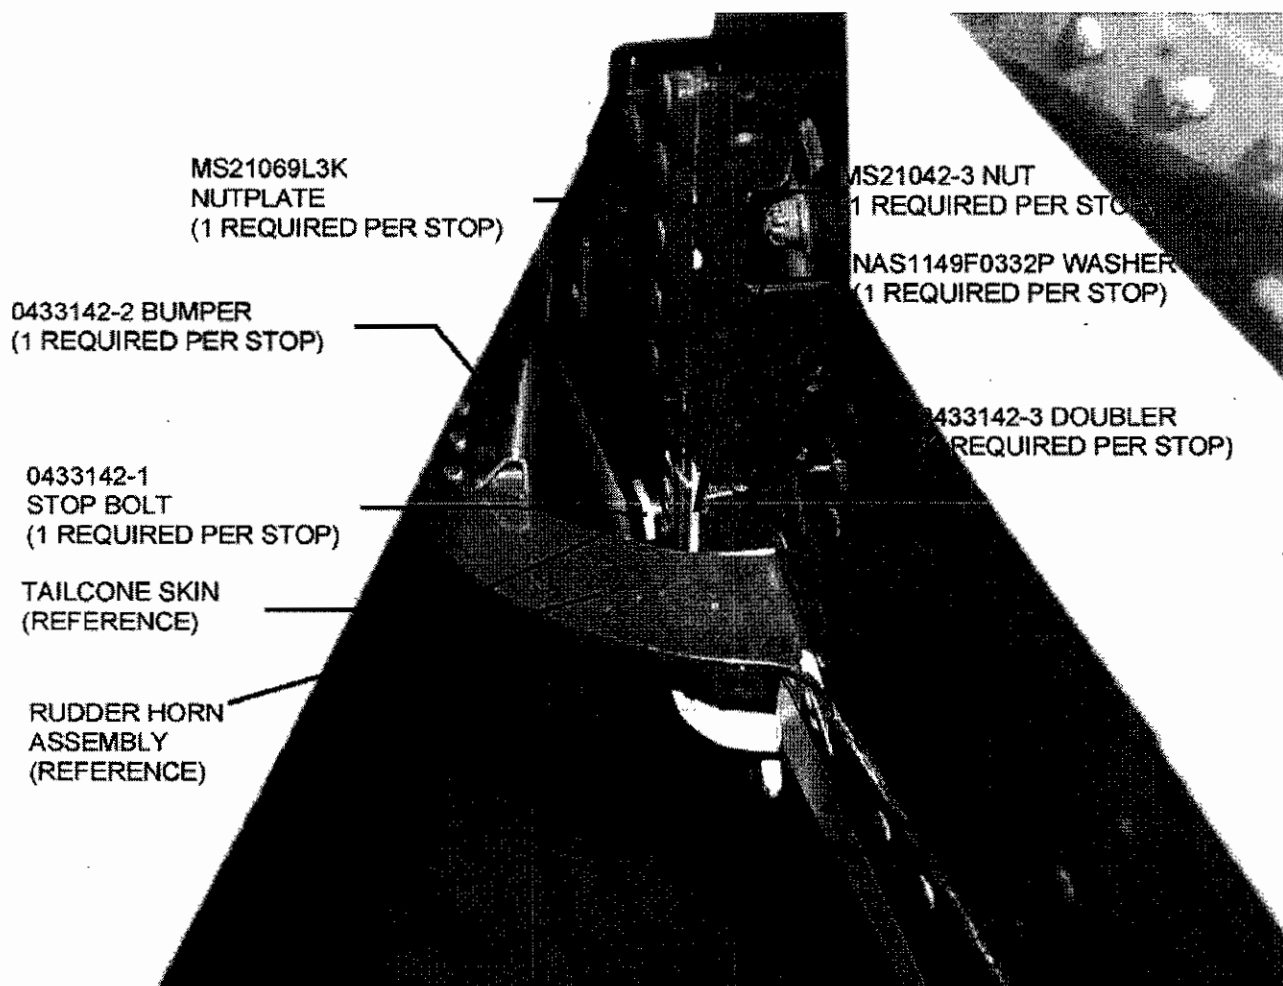

FIGURE 1.
12. (Refer to Figures 1 and 2.) Counterbore approximately half the thickness of the 0433142-3 Doubler in the two locations marked in step 10, using a Number 21 (0.159 inch diameter) drill bit. The counterbored holes allow the doubler to nest over the nutplate rivet butts and to seat flush with the inboard flange of the tailcone bulkhead. Do not drill through doubler.
15. (Refer to Figures 1, 2, and 3.) Test fit 0433142-3 Doubler by placing counterbores over nutplate rivet butts. Pencil mark new rivet hole locations onto doubler. Remove doubler and verify 0.15 inch minimum edge distance for new holes.
16. (Refer to Figures 1 and 2.) Clamp 0433142-3 Doubler in place and match drill rivet holes into doubler using a Number 40 (0.098 inch diameter) drill bit. Remove doubler and deburr all holes.
17. (Refer to Figures 1 and 2.) Install 0433142-3 Doubler using two MS20470AD3-6A Rivets.
18. (Refer to Figure 1 and 2.) Install 0433142-1 Stop Bolt in nutplate. Install NAS1149F0332P Washer and MS21042-3 Nut onto inboard end of stop bolt.
2. (Refer to Figure 1.) Remove rivets attaching rudder stop bumper to rudder horn assembly. Remove rudder stop bumper.
9. (Refer to Figures 1 and 2.) Test fit replacement MS21069L3K Nutplate and 0433142-3 Doubler. Clamp in place with temporary fastener.